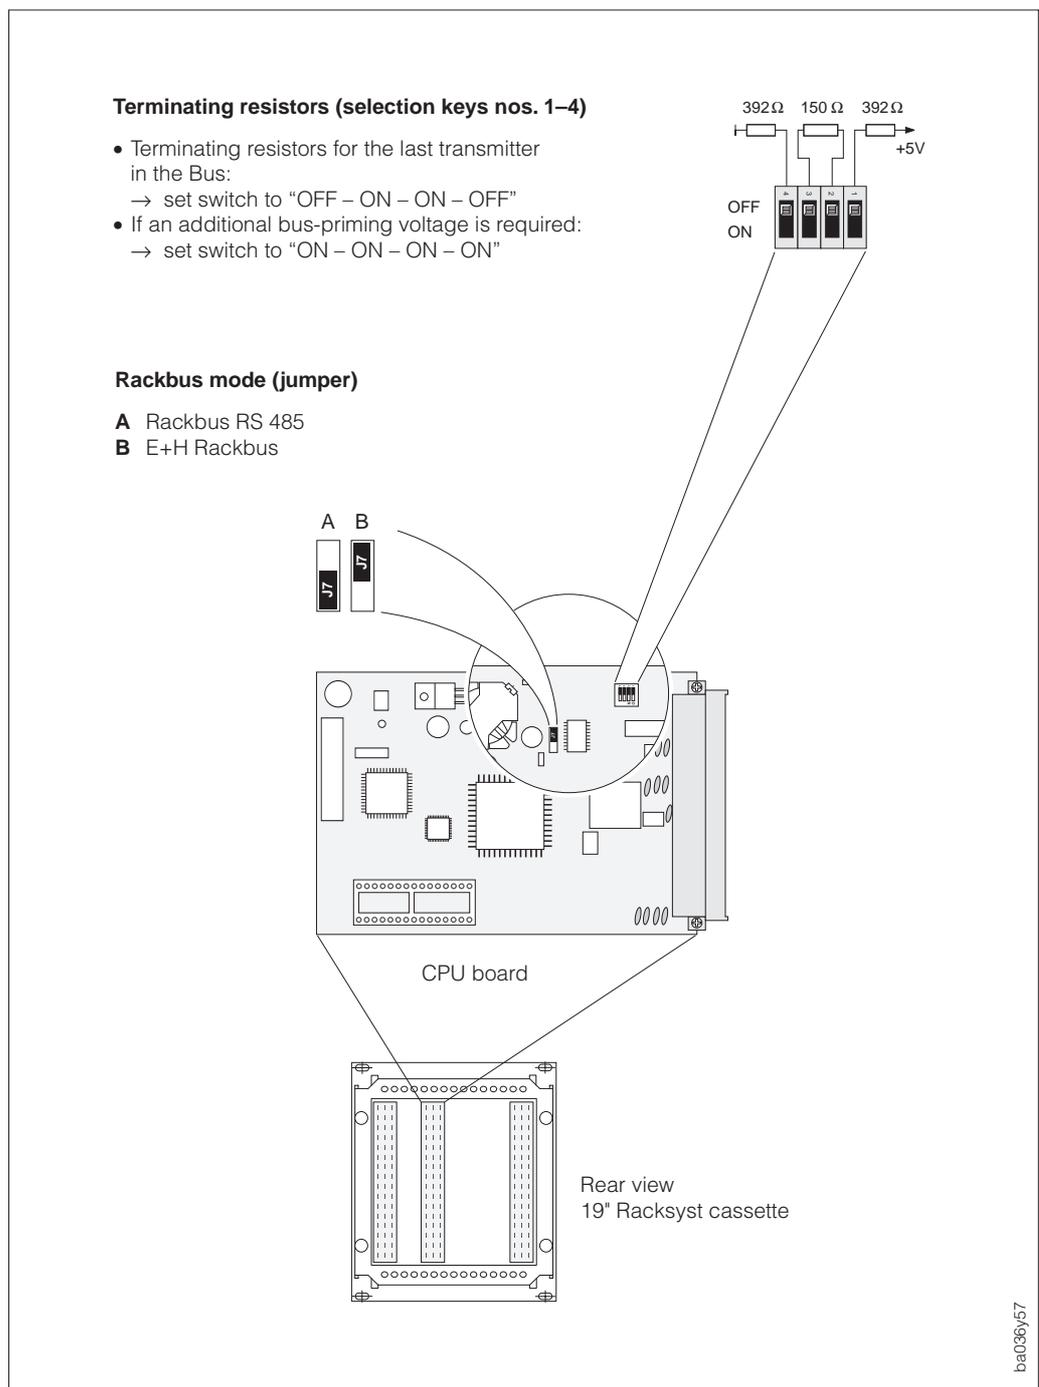

Fig. 22
3. Set terminating resistors resp. the Rackbus mode according to Figure 22.